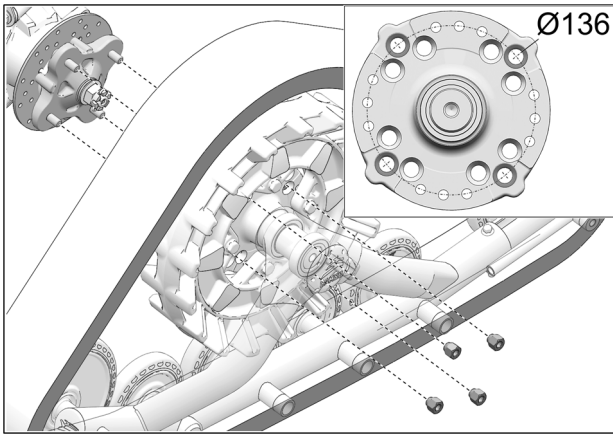

Fig. 9
8. Secure undercarriage to rear hub using the vehicle's own lug nuts. Use bolt circle  $\varnothing 136\text{mm}$ . See Fig. 9